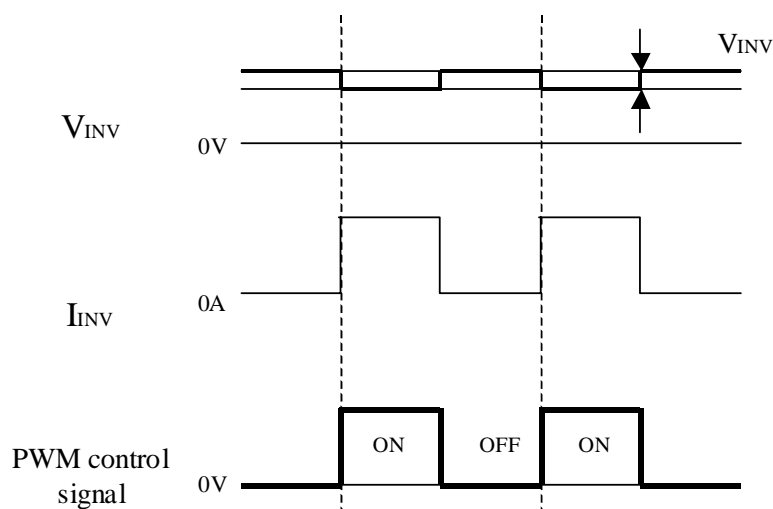

Fig.4 Brightness control voltage.
- Brightness control voltage is switched for “ON” and “OFF”, as shown in Fig.4. Voltage difference generated by this switching, V_{INV} , may affect a sound output, etc. when the power supply is shared between the inverter and its surrounding circuit. So, separate the power supply of the inverter circuit with the one of its surrounding circuit.